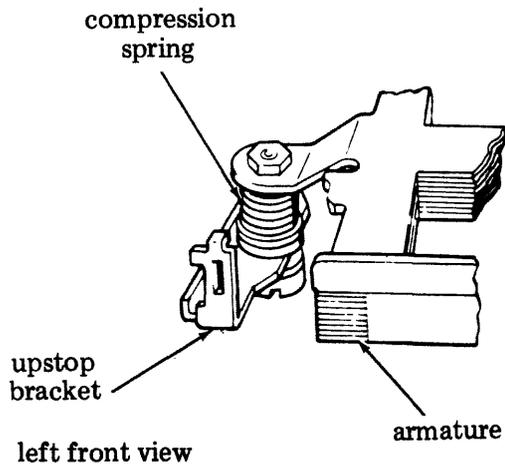

Figure 12 - Upstop Mechanism
- (b) A portion of the energy is dissipated through a resilient buffer to minimize noise and metallic clatter (Figure 12).